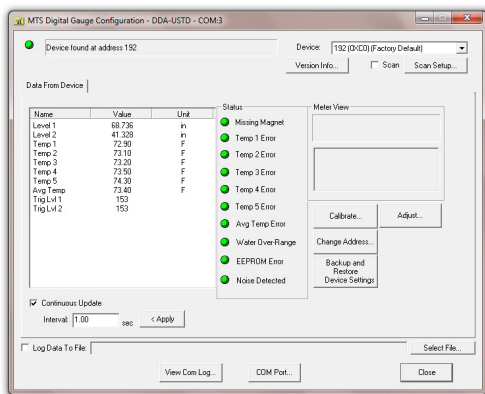

Figure 9. Data from device tab
Adjustments to the calibration and set up parameters of the transmitter can be performed using the M-Series Digital Setup Software package. The software can be run from any PC using a RS-485 to RS-232 converter (see Table 10 MTS part number references). In the 'MTS Digital Gauge Configuration - DDA - USTD II' window, you will see one tab labeled 'Data From Device' (see Figure 9). You will use this tab and its button selections to calibrate the transmitter and change setup parameters.
5. Click the 'Data From Device' tab, click the **Device:** pull-down and select the 'transmitter address', the factory default for DDA is **192** (see Figure 9).
Parameter settings and calibration is performed from within the Data From Device tab window (see Figure 9).
To adjust settings, click the **'Adjust'** button located in the *'Data From Device'* tab window (see Figure 9). The *'Adjust DDA Gain'* window displays different parameter settings. All transmitters will have the ability to adjust the *'Gain, SARA Blanking and Magnet blanking'* from this menu. These parameters are password protected, changes will